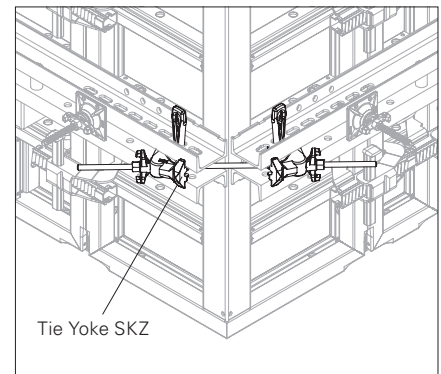

Fig. C2.06c
The outside corner can also be implemented with the Tie Yoke SKZ (article no. 024210) instead of the waler stop (86) and anchor tie yoke (87). For assembly, see the Instructions for Assembly and Use for VARIO GT 24 Girder Wall Formwork. (Fig. C2.06c)